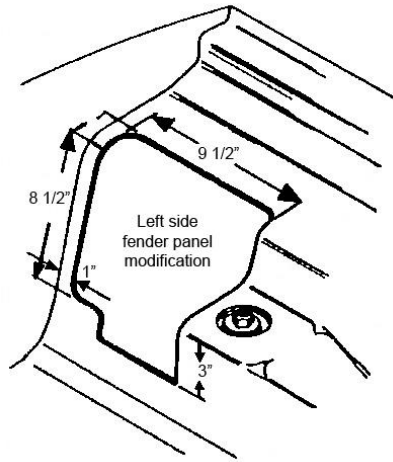

Figure 1
4. Use an air chisel or cutting torch to cut a hole in the fender panel. **See Figure 1.**